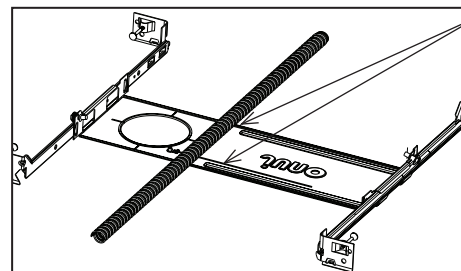

Figure 11
**Step 3.** Use steel wire on plaster frame to secure flexible supply. It is critical that the flex supply is accessible from below the ceiling where there is no top access to the fixture location (Fig. 11). Leave adequate length (1' minimum) that can be pulled into room after ceiling installation.